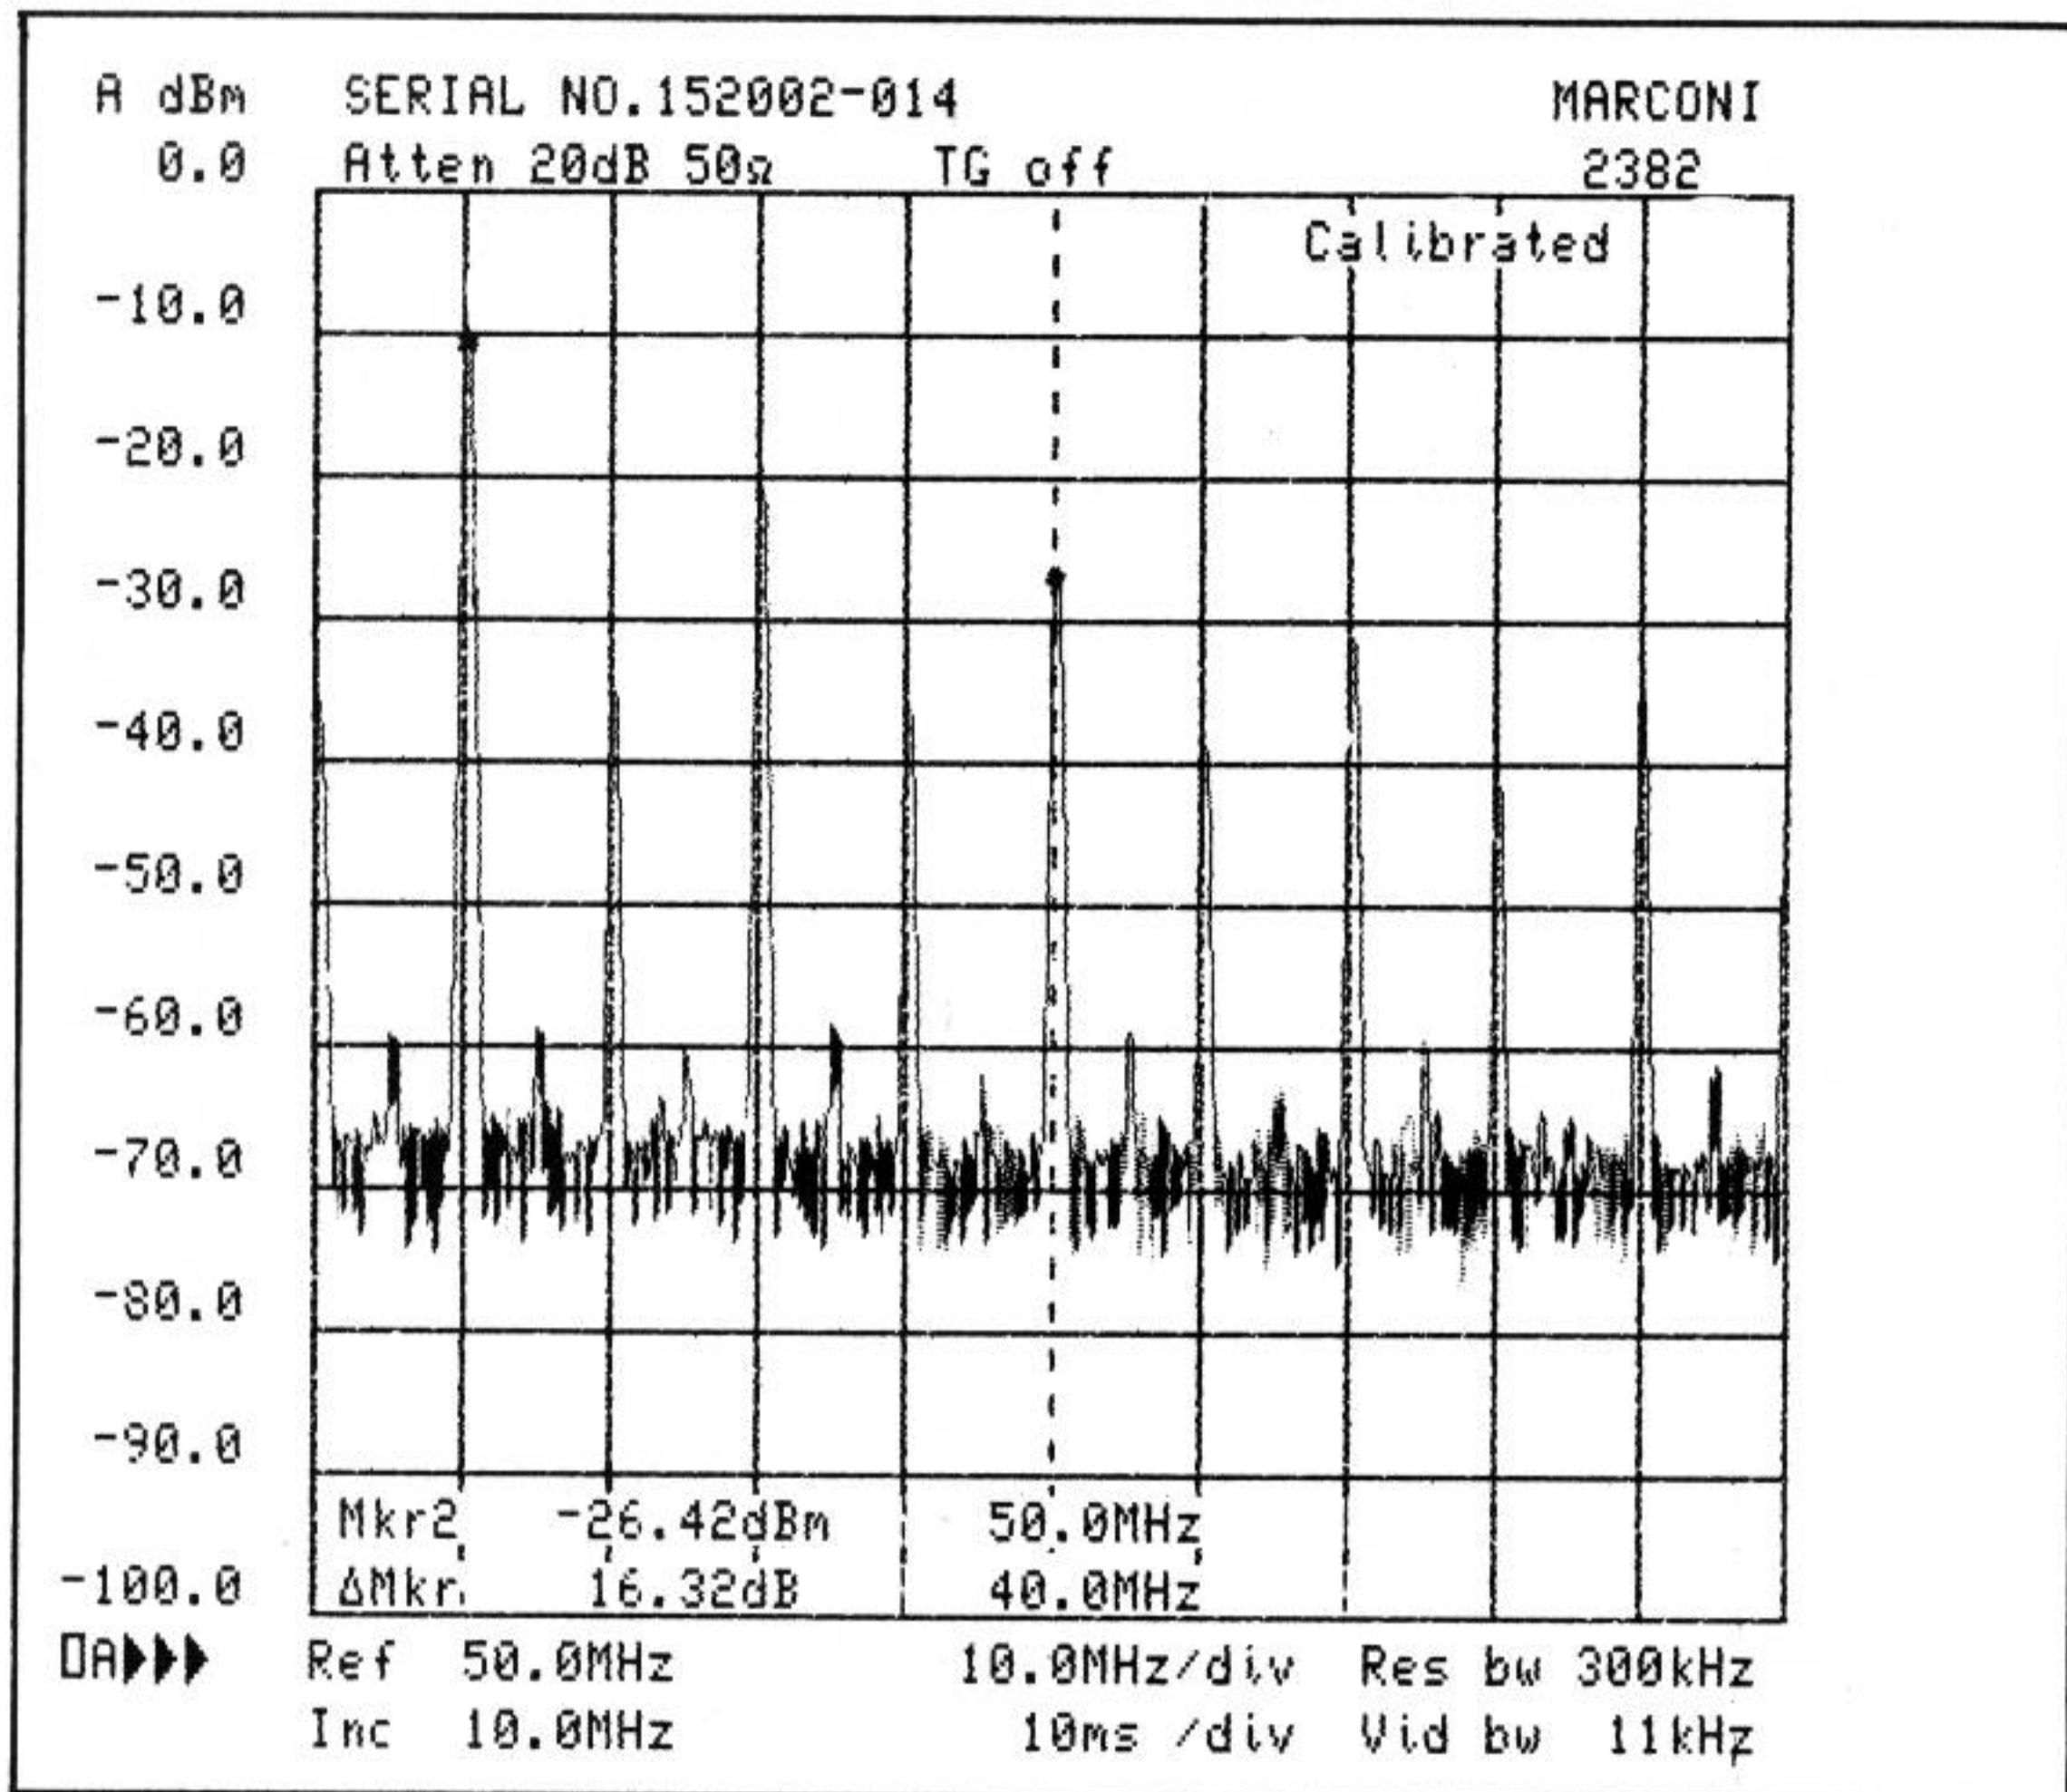

Fig. 9 Measurements using both markers
43. Press the MKR 2 key and set the 1 2 MOVE control to MKR 2. An indicator light shows that MKR 2 is selected and it flashes on the screen for easy identification. Using the rotary control move the dot to a signal peak and note that the screen annotations now show the level and frequency of this marker. In addition the difference in level and the difference in frequency between the two markers is shown (refer to Fig. 9). To avoid the continual movement of the display which may affect measurement accuracy press sweep mode SINGLE ARM. This stores and displays a single sweep and markers can be positioned with greater precision. Alternatively the SAVE A key can be used (refer to para. 49).